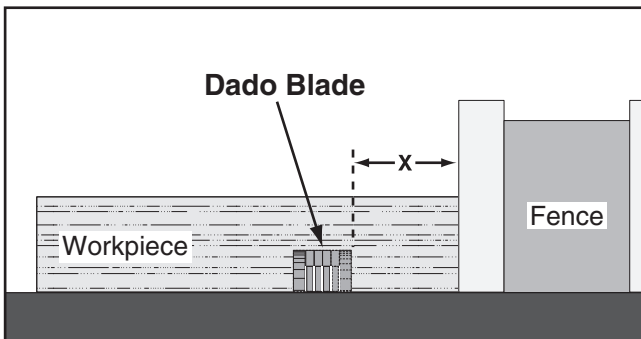

Figure 55. Example of a dado being cut with a dado blade.
4. Adjust distance between fence and inside edge of blade, as shown in **Figure 55** on **Page 40**, to dado length of a workpiece.